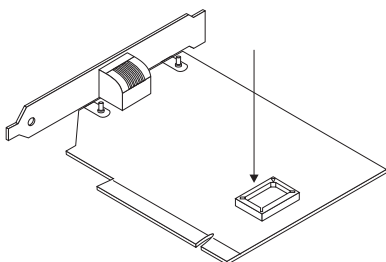

Figure 3-1. 10/100 EtherJet PCI Adapter
- 2 Place the adapter on a flat surface, component side up. The arrow in Figure 3-1 indicates the socket location for the Flash module.